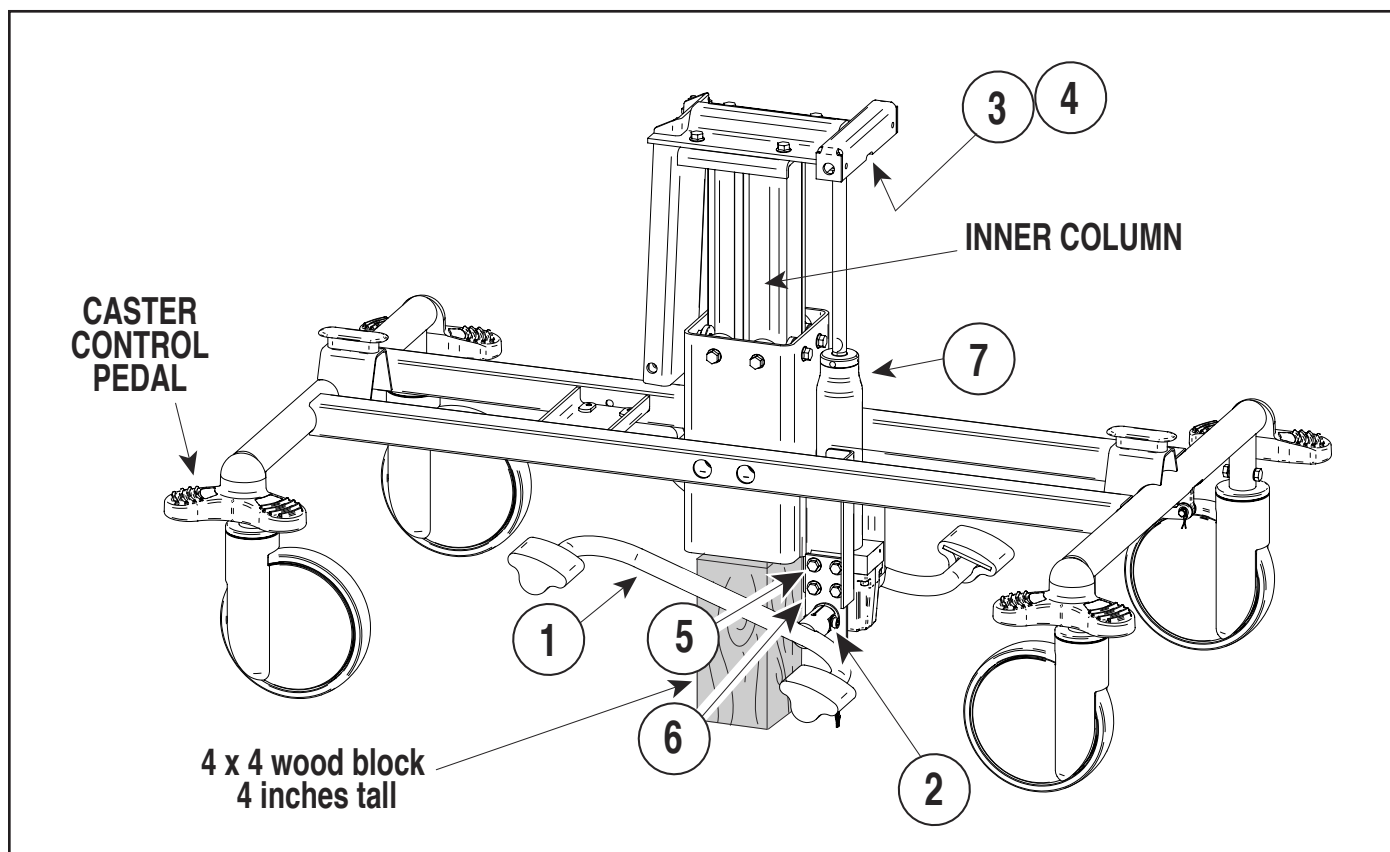

Figure 4-3 Lift Assembly / Disassembly
The system may be removed or replaced with the litter cowl in place. It is not necessary to disassemble these items. Litter top and cowl are only removed in figure 4-3 for instructional clarity.
- (1) Lower Bellows for access (per para. 4.2)
- (2) Depress the caster control pedal (Figure 4-3) to the brake position.
- (3) Place a 4X4 wooden block (minimum of 4 inches tall) directly under the inner column. If possible, fully lower the litter top until it rests on the wooden block supporting the weight of the litter top. Remove pump pedals (1), shoulder bolts, nut, and washers (2).
- (4) Insure that the cylinder rod clevis pin is not under load. Remove clevis Pin (3) and E-clip (4).